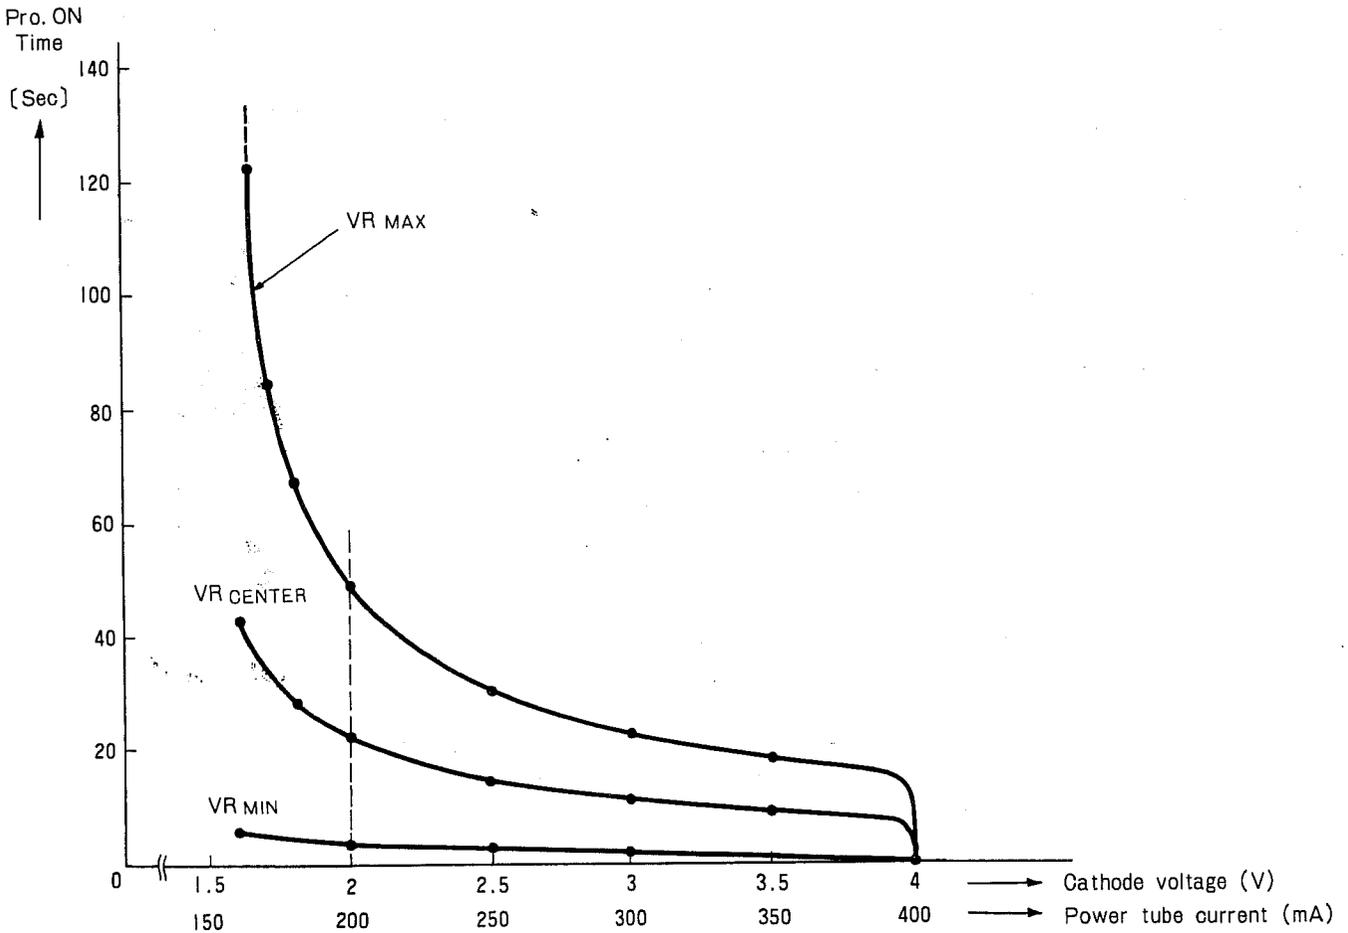

FIG. 3 PROTECTOR CHARACTERISTICS
0.7 V across the base-emitter junction — the same level as produced by the 240 mA fault current. Thus, the thyristor is turned on by this voltage to energize relay RL1, and protect the power tubes. To reset the protection circuit, shift the exciter stand-by switch to the receive mode or turn the LINEAR ON switch off. This procedure is necessary since relay RL2 has been self-held by "make" contacts since operation of relay RL1. The thyristor however has been automatically reset. Fig. 3 shows the operating characteristics of the protection circuit.
<p>(3) Overcurrent protection circuit does not operate.</p>	<p>(a) Protection circuit is turned off since PRO TIME knob on rear of set is set in the fully counterclockwise direction. Note: This knob should not be adjusted in normal operation. Power tubes may be damaged if transmission is continued with protection circuit off.</p> <p>(b) Confirm that the protection circuit is powered. (The voltage should be approximately DC 15 V at pin 28 of X53-1000-00.)</p> <p>(c) Protection will start only after an extended period at a plate current of around 150 mA. This, however, is not a trouble but is due to the operating characteristic of the protection circuit. See Fig. 3.</p>
<p>(4) Overcurrent protection circuit trips too quickly.</p>	<p>(a) Confirm that PRO TIME knob, on the rear, is set to proper operation time. (Refer to ALIGNMENT for the time adjustment.)</p> <p>(b) Rated exciter input to TL-911 is 100 W. If driven by more than 100 W, protection will trip more quickly than rated due to increase in I_p. See Fig. 3. Protection will trip quickly if transmission is continued at an I_p of around 300 mA. This, however, reduces the life of the power tubes, and drive should be reduced.</p> <p>(c) If linear amp tank circuit is improperly adjusted, plate dissipation will be greater under this condition. I_p will rapidly increase with the increase in tube temperature and protection will trip more quickly. This usage, in turn, imposes an extreme overload on the tubes, causing them to flash. The tank circuit, therefore, should be adjusted until tubes deliver maximum output for a given rate of plate current.</p>